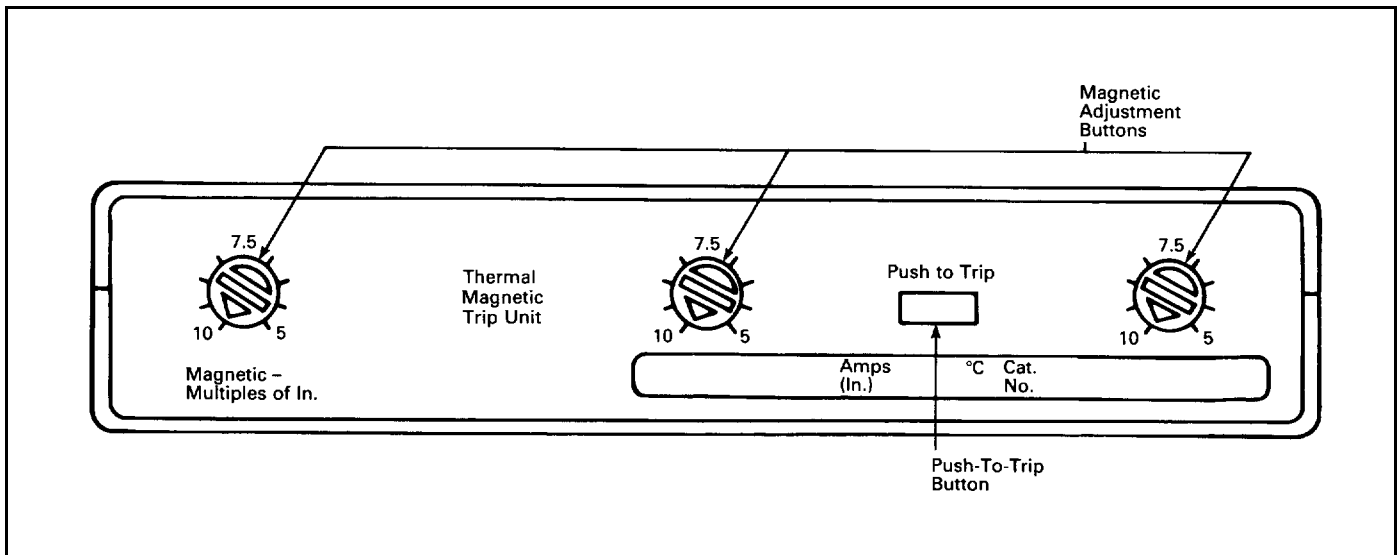

Fig. 2-3 Trip Unit Magnetic Adjustment Buttons
Adjustable Thermal: Trip units having an adjustable thermal element are adjusted within the range shown in Table 1-2 with a single adjusting button (see Fig. 2-3).
Magnetic Trip: The magnetic trip on each pole may be adjusted by turning the adjustment button with a screwdriver (see Fig. 2-3). In the magnetic trip region (above $6 \times I_n$), the trip current levels can be up to approximately 40 percent higher for DC than for AC, depending on the rating.
- 2-11. Press PUSH-TO-TRIP button with a small screwdriver to check manual tripping of the circuit breaker (see Fig. 2-3).
ues in multiples of the trip unit ampere rating (I_n) as shown in Fig. 2-3.
- 2-12. Adjust magnetic pick-up settings as required (see Fig. 2-3).